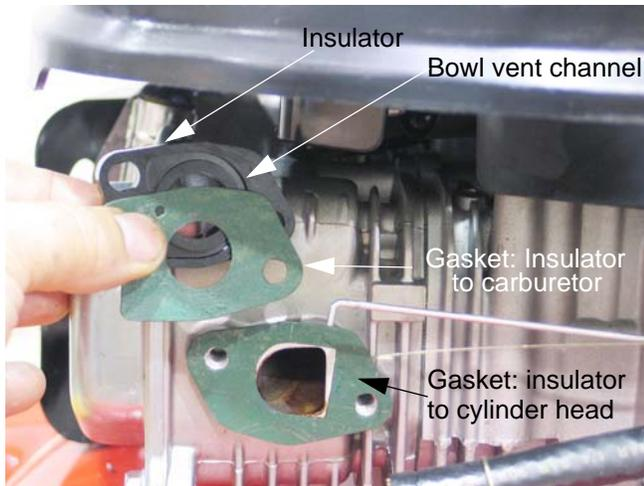

Figure 3.17
3. The insulator is sandwiched between two gaskets which are located between the carburetor and the cylinder head. See Figure 3.17.